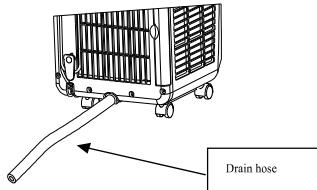

Figure 14
- 2). Insert the OD 13mm PVC drain hose 8mm-10mm into the water outlet; (Figure 14)